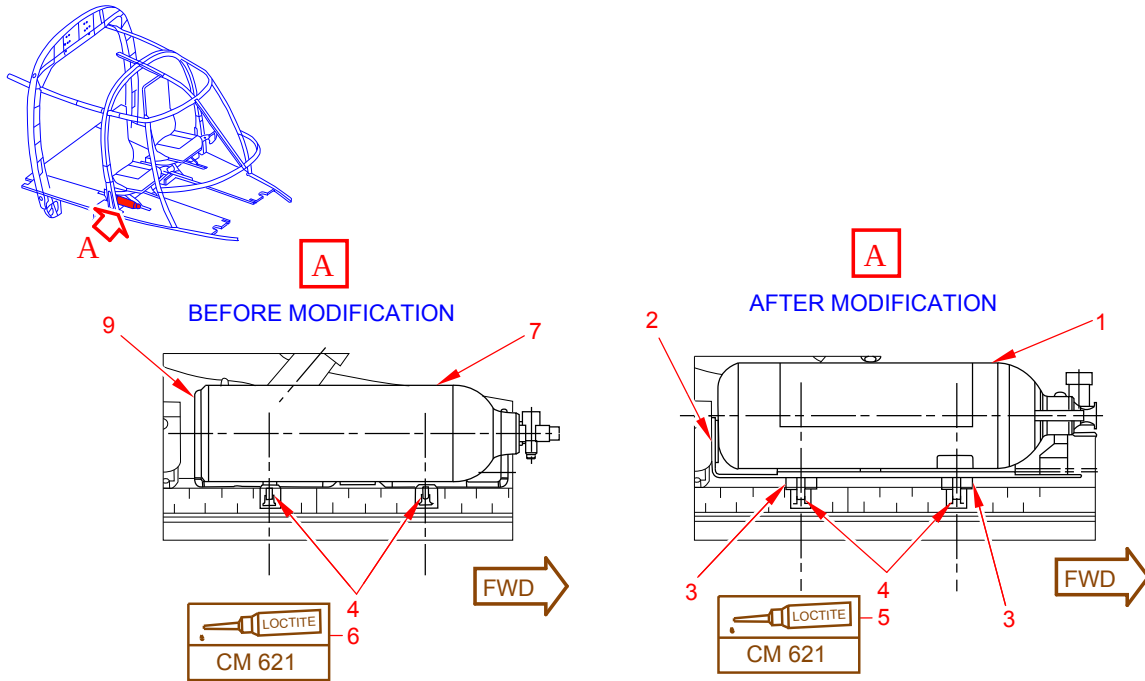
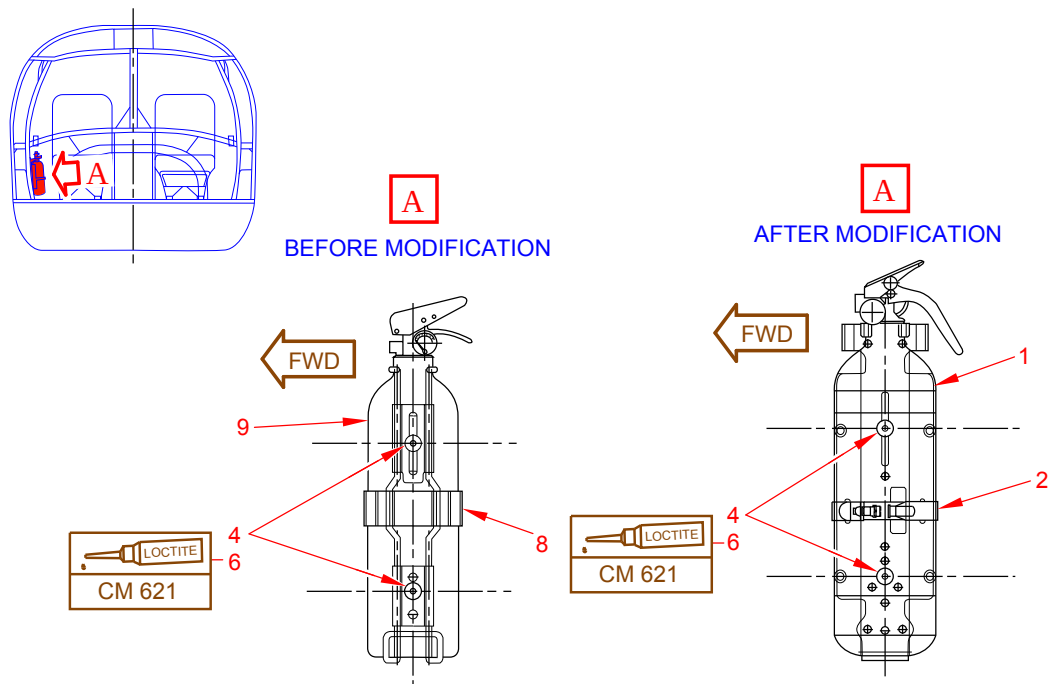

Figure 1
Figure 2
- 4.1. Removal of the Cockpit fire extinguisher and the bracket on Cockpit floor (Figure 1) or on frame 25° configuration (Figure 2).
- 4.2.1. Install the HAND FIRE EXTINGUISHER BRACKET P3APP003020J (2) (Figure 1) with:
- SCREW SIX LOBE RECESS ECS2365TK04S22X (5).
- WASHER 23116TK040X (4).
- SPACER 350A77-2428-20 (3).
4.3.1. Install the HAND FIRE EXTINGUISHER BRACKET P3APP003020J (2) (Figure 2) with:
- SCREW SIX LOBE RECESS ECS2365TK04S12X (6).